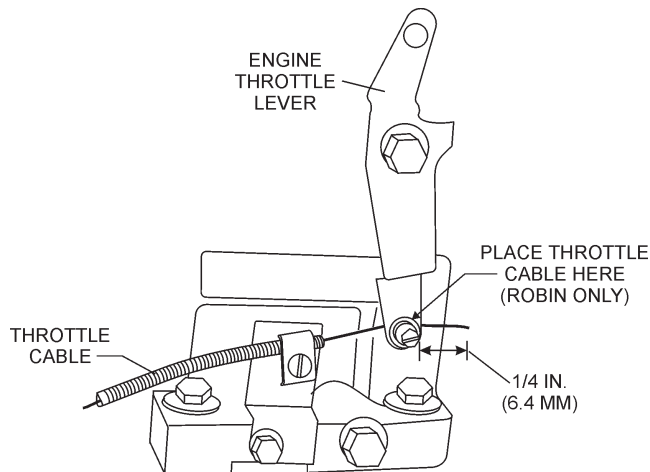

Figure 13. Throttle Cable Connection (ROBIN)
- Connect the throttle cable hook-on wire to the **ROBIN** engine throttle lever as shown in Figure 13.